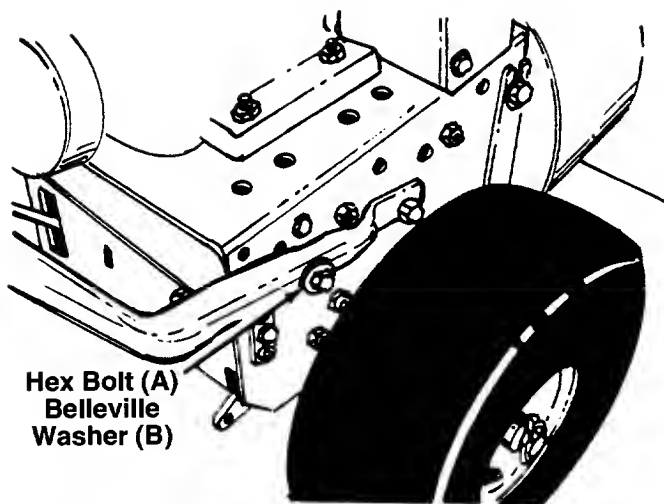

FIGURE 6.
6. Secure the upper hole in the handles with belleville washers (B) (cupped side against the handles) and hex bolts (A). See figure 6. Do not tighten at this time.